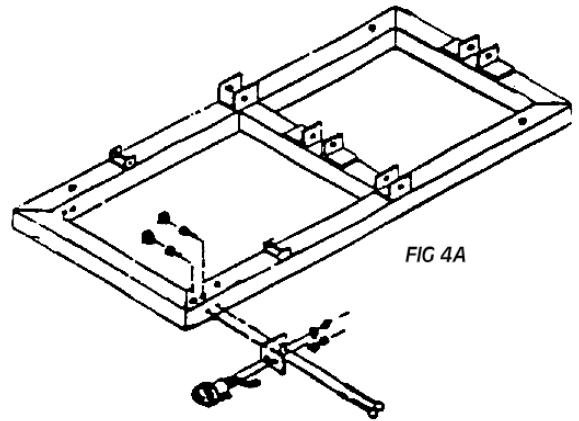

FIG 4A
- 9) Attach tail light brackets to the rear of the trailer frame on each side using (4) each 1/4"-20 x 3" bolts, lock washers, and nuts provided, as shown in Fig. 4A. (Shorter leg of the bracket bolts to the frame)